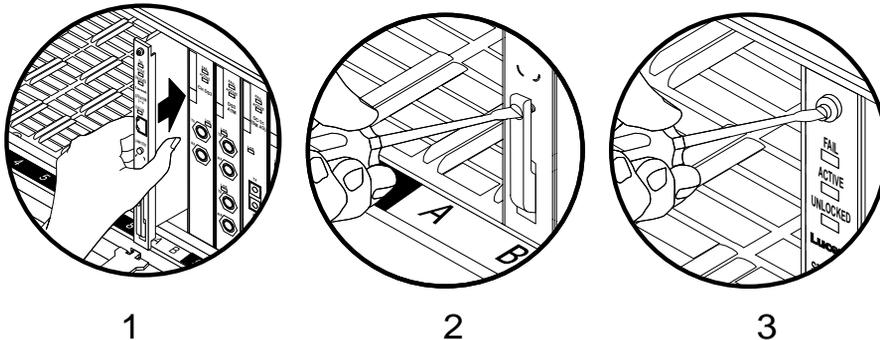

Figure 15. Installing the Stratum 3–4 Module into the Chassis
- 2 Open the ejector handle on the bottom side of the module faceplate, and slide it into slot A of the chassis. Ensure you position the module with the ejector handle near the bottom edge of the chassis opening, as shown in Figure 15.
- 4 Tighten the captive screw in the ejector handle using a crossed-recess screwdriver, as shown in Figure 15.
- 5 Tighten the captive screw at the upper edge of the module using a slotted screwdriver, as shown in Figure 15.